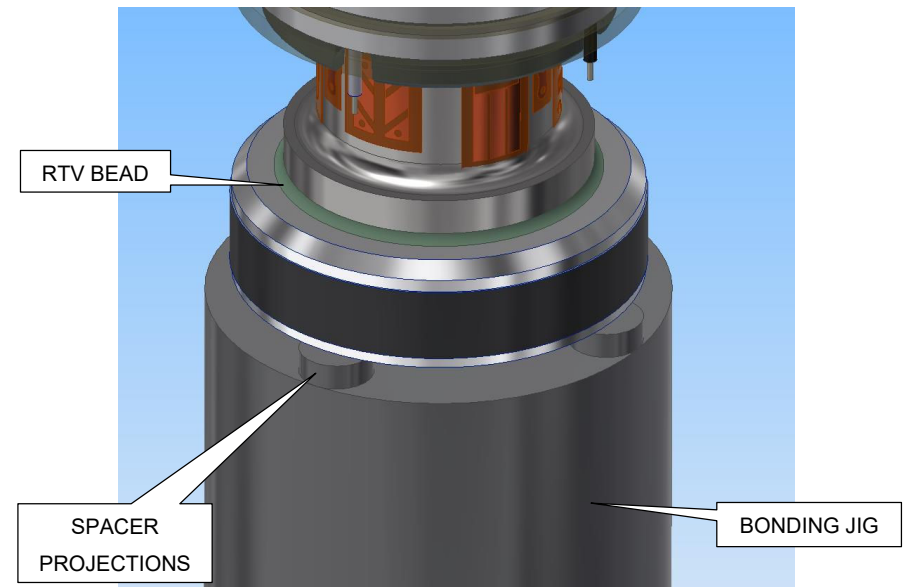

Figure 4
- 6) Place the Assembly onto the BONDING JIG and seat the ENCODER DRUM onto the SPACER PROJECTIONS to properly space the DRUM. Reference Figure 4
- 7) Clean excess RTV from the top of the DRUM with a Cotton Swabs. Reference Figure 4